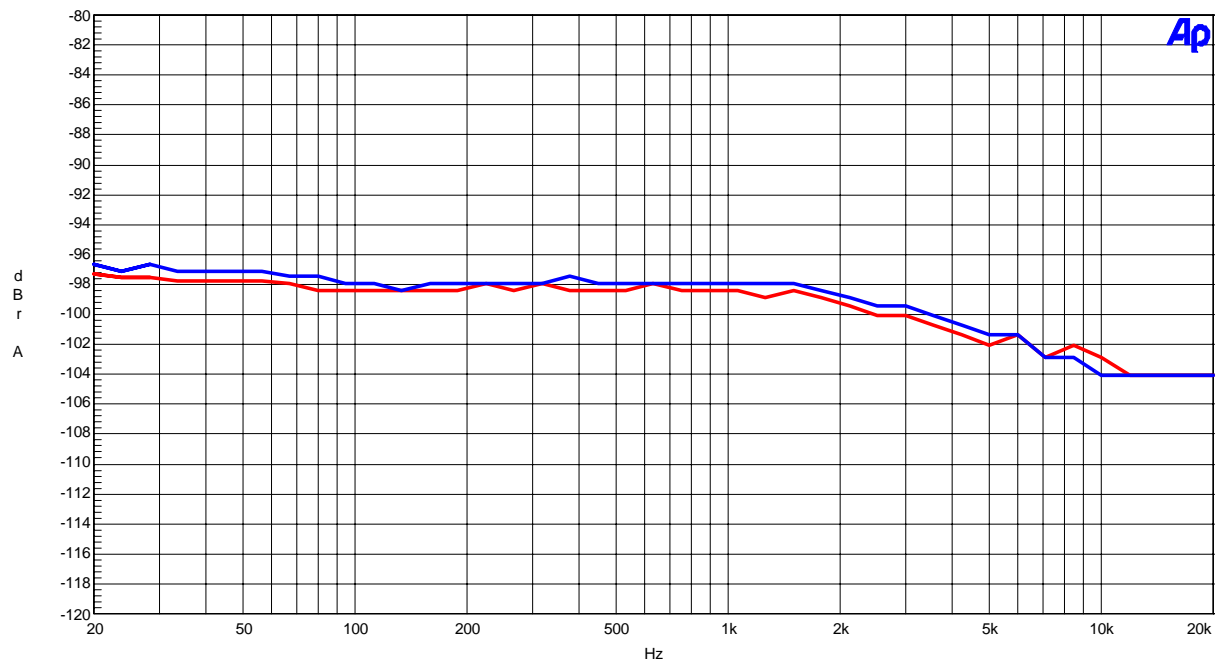

Figure 29. THD+N vs Input Frequency (Input Level=0dBFS)
- Figure 29. Linearity (Input Frequency =1kHz)